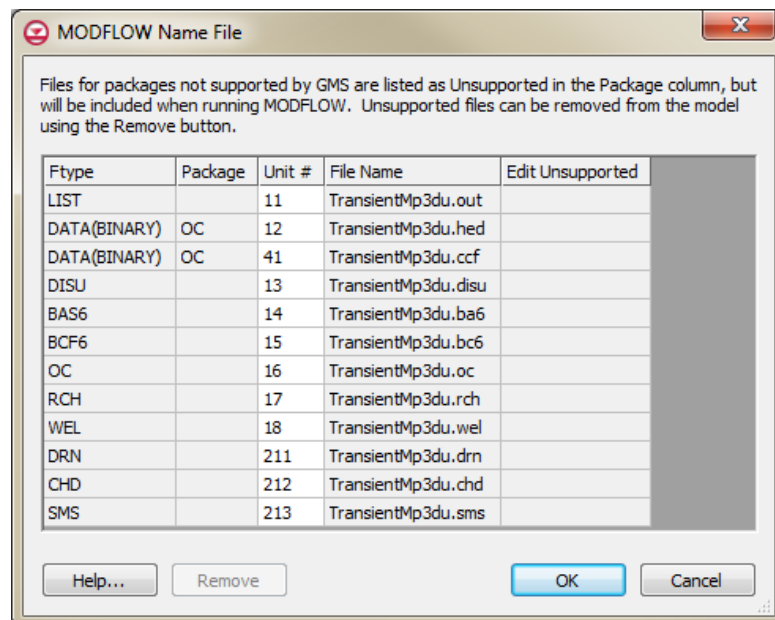

Figure 8 MODFLOW Name File dialog.
2. Scroll down so that unit numbers greater than “199” are visible (Figure 8).